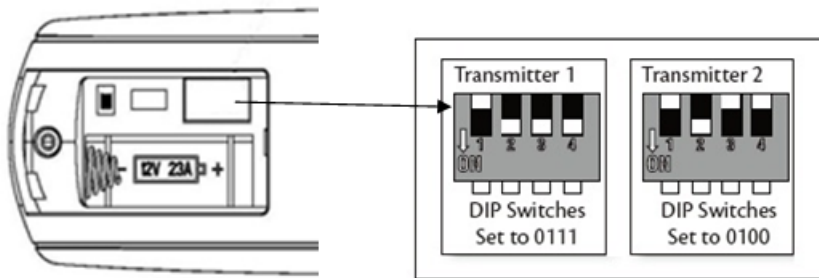

Fig. 11
- Change the position of the DIP switches in the remote transmitter 1, so that it will be different to transmitter 2. Fig. 11
- Change the position of the DIP switches in the remote transmitter 2, so that it will be different to transmitter 1. Fig. 11